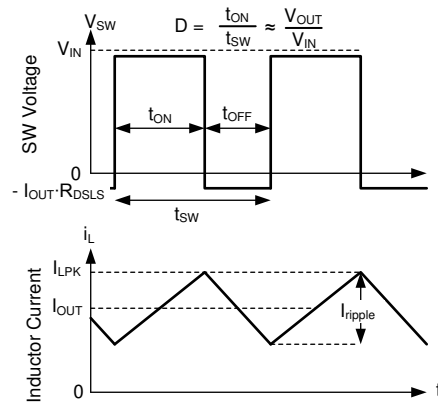

图 9-21. SW Voltage and Inductor Current Waveforms in Continuous Conduction Mode (CCM)
The following operating description of the LM62440-Q1 refers to 节 9.2 and to the waveforms in 图 9-21. In CCM, the LM62440-Q1 supplies a regulated output voltage by turning on the internal high-side (HS) and low-side (LS) NMOS switches with varying duty cycle (D). During the HS switch on-time, the SW pin voltage,  $V_{SW}$ , swings up to approximately  $V_{IN}$ , and the inductor current,  $i_L$ , increases with a linear slope. The HS switch is turned off by the control logic. During the HS switch off time,  $t_{OFF}$ , the LS switch is turned on. Inductor current discharges through the LS switch, which forces the  $V_{SW}$  to swing below ground by the voltage drop across the LS switch. The converter loop adjusts the duty cycle to maintain a constant output voltage. D is defined by the on-time of the HS switch over the switching period: